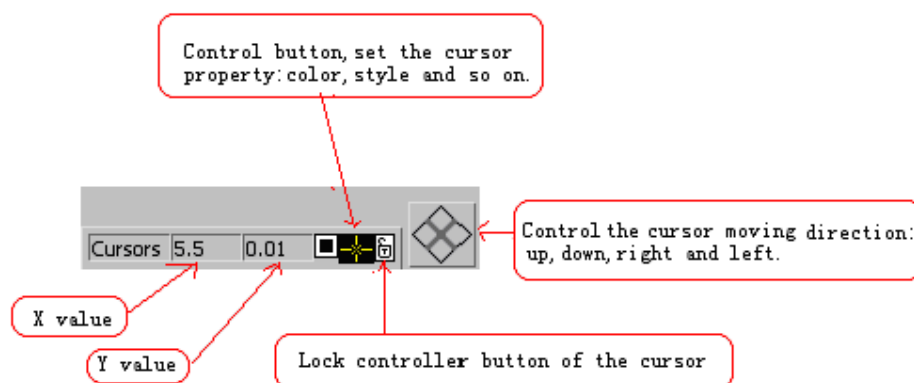

Figure 24
4. Cursor legend; (See Figure 24)